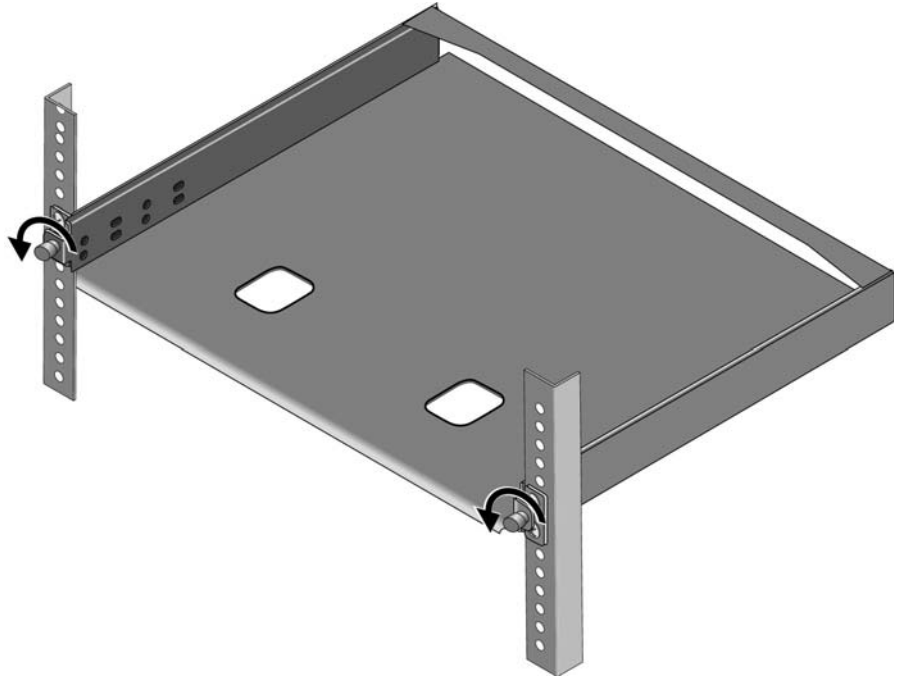

Figure 31. Loosening the Two Thumbscrews on the Front of the AT-RKMT-J15 Bracket
2. Loosen the two thumbscrews on the front of the bracket. Refer to Figure 31.